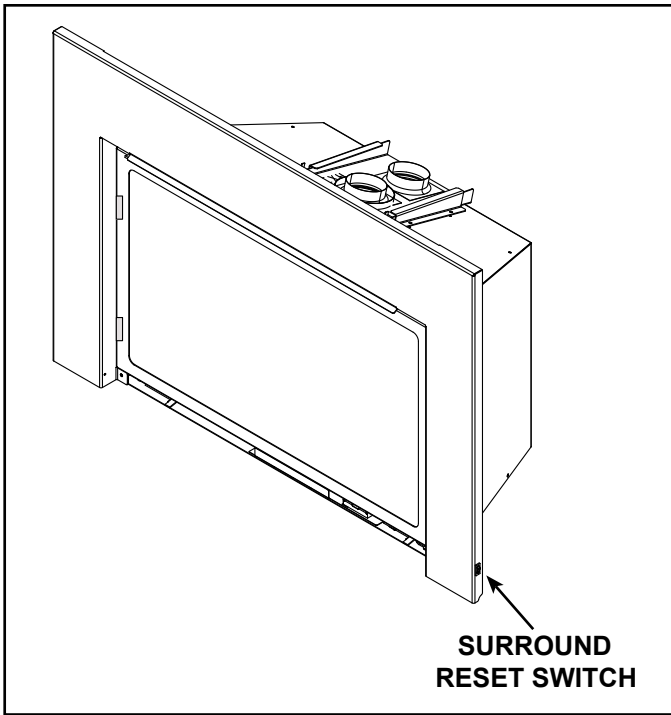

Figure 3.9 Surround Reset Switch
2. Toggle surround manual reset switch position to “OFF”. See Figure 3.9. Check to make sure the ignition module switch is **NOT** in the “ON” position.
- Toggle surround manual reset switch position to “ON”. See Figure 3.9. Check to make sure ignition module switch is in the “REMOTE” position.
- Toggle surround manual reset switch position to “ON”. See Figure 3.9.
- Toggle surround manual reset switch position to “OFF”. See Figure 3.9.
5. The module has the capability to recognize potential malfunctions. If these occur, it will fail to ignite and/or respond to a command to ignite via the wall switch and/or remote. In this case, the module may have gone into LOCK-OUT mode. In this state, it will emit a LED error code. To reset the error code, toggle the appliance reset switch to the OFF position. See Figure 3.9 for reset switch location. If the ignition command again fails, the module will emit an LED error code, prior to going back into LOCK-OUT mode. Contact your dealer for service if this occurs.
- Toggle the appliance reset switch to the off position . See Figure 3.9 for reset switch location.
- Wait five (5) minutes to allow possible accumulated gas to clear.